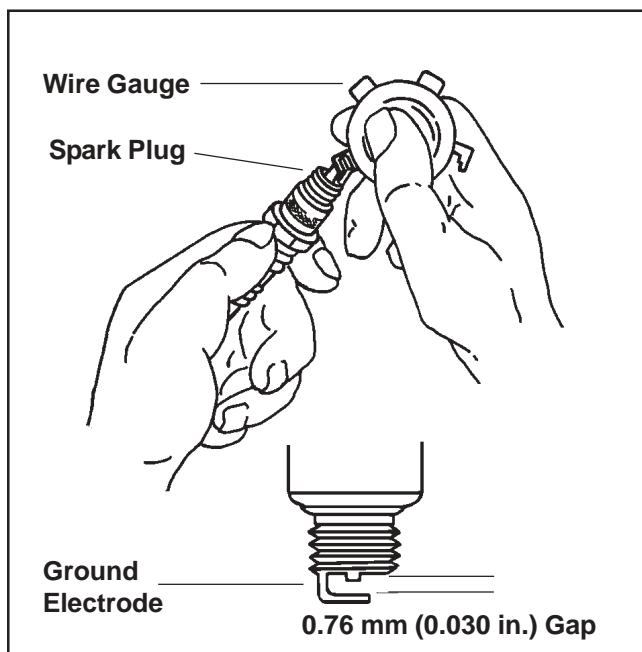

Figure 8-1. Servicing Spark Plug.
3. Check the gap using a wire feeler gauge. Adjust the gap to **0.76 mm (0.030 in.)** by carefully bending the ground electrode. See Figure 8-1.